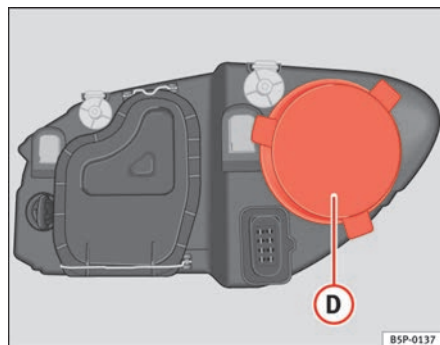

Fig. 191 Side lights
- Remove the cover ⇒ fig. 191 ① by pulling on this.